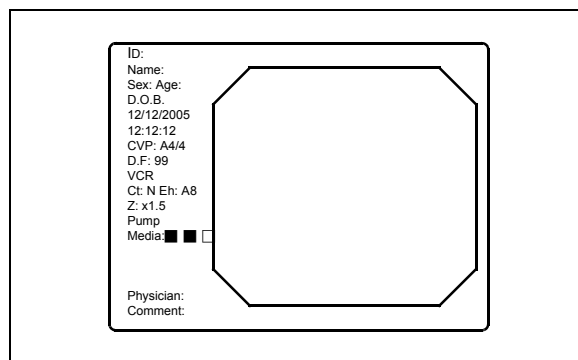

Figure 3.3
1. Turn the instrument ON. Then the endoscopic image appears on the screen (see Figure 3.3).